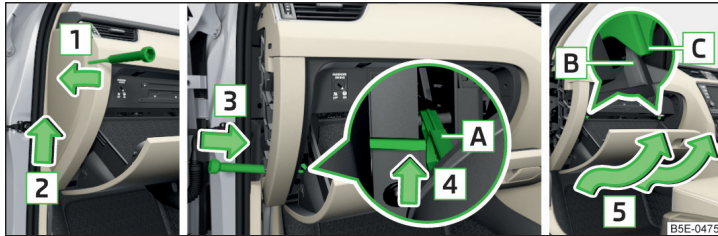

Fig. 232 Storage compartment on the front passenger's side: RHD
- Insert a screwdriver under the side cover » Fig. 232.
- Move the stop buffer **B** of the storage compartment behind the brackets **C** » Fig. 232.